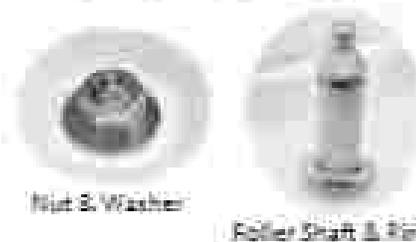

Figure 9 - Roller Hardware
- To remove the roller shaft, remove the 9/16" nut and washer from the roller support, and remove the support and remaining triangular ring. See Figure 9.